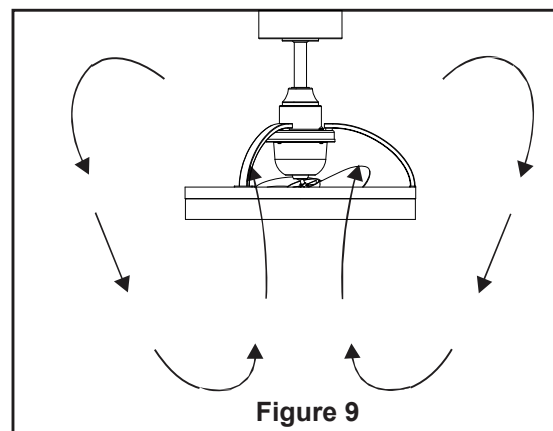

Figure 9
- ☐ Cool weather - (Reverse) An upward airflow moves warm air off the ceiling area as shown in. (Figure 9) This allows you to set your heating unit on a lower setting without affecting your comfort.